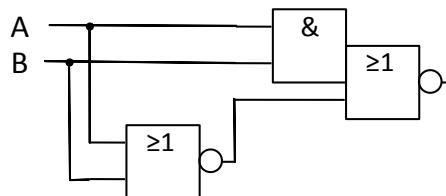

Figure 2: An XOR gate made up from two logic gates.
A 2-input exclusive or (XOR) gate can be implemented using a 2-input NOR gate and a 2-input AND-OR-INVERT gate connected as shown in Figure 2.
- a) Draw the transistor diagram for the 2-input XOR gate consisting of the two gates shown in Figure 2. (2 p)
- b) Draw the transistor diagram of the direct implementation of a 2-input XOR gate derived from a truth table or Karnaugh diagram. Identify at least one advantage of the solution in Figure 2 over this solution. (2 p)
- d) BONUS Draw the logic diagram of the exclusive negative or (XNOR) gate, consisting of two logic gates, corresponding to the XOR gate shown in Figure 2. Verify that your solution has the correct logic function. (3 p)